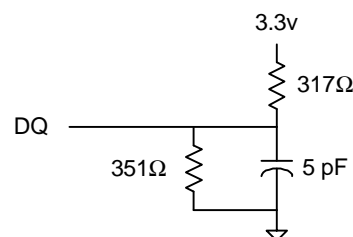

Fig. 2 OUTPUT LOAD EQUIVALENT
- Output loading is specified with $CL=5pF$ as in Fig. 2